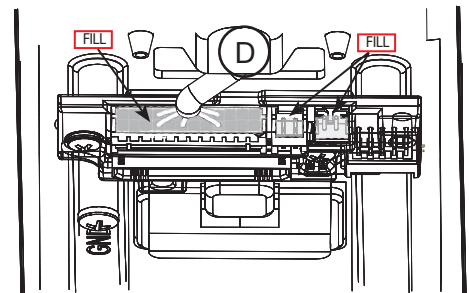

Fig. 16c
D. Ensure all openings on back of secured reader connector are covered completely with grease (Fig. 16c).